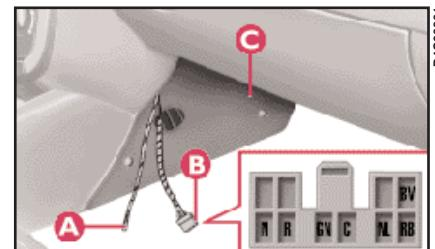

fig. 95
- cables to connect the dual purpose aerial A (fig. 95) and a ten pin connector B and cables to supply power and to connect to the dual purpose speaker located on the front part of the central tunnel. To access the cables, remove the screws and flap C.